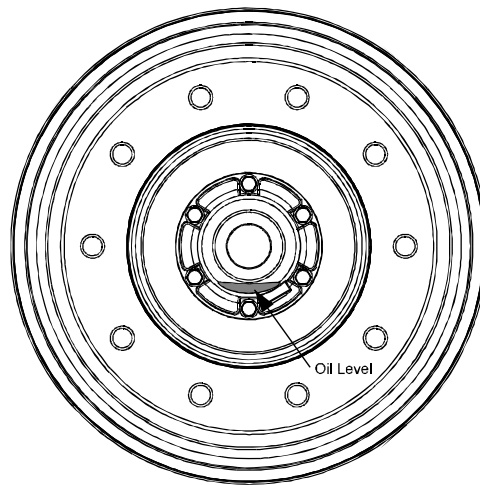

Figure 5 - Wheel Bearing Oil Level
2. Check oil level through hub cap window. If level is below the “add” level line then remove the pipe plug and fill with recommended oil until “full” level is achieved. (**Figure 5**). Add oil slowly since the heavy weight oil will settle slowly in the hub. (Note: The hub cap window can only be cleaned with mild soap and water. Aromatic solvents should not be used, as they will impair the transparency of the window.)